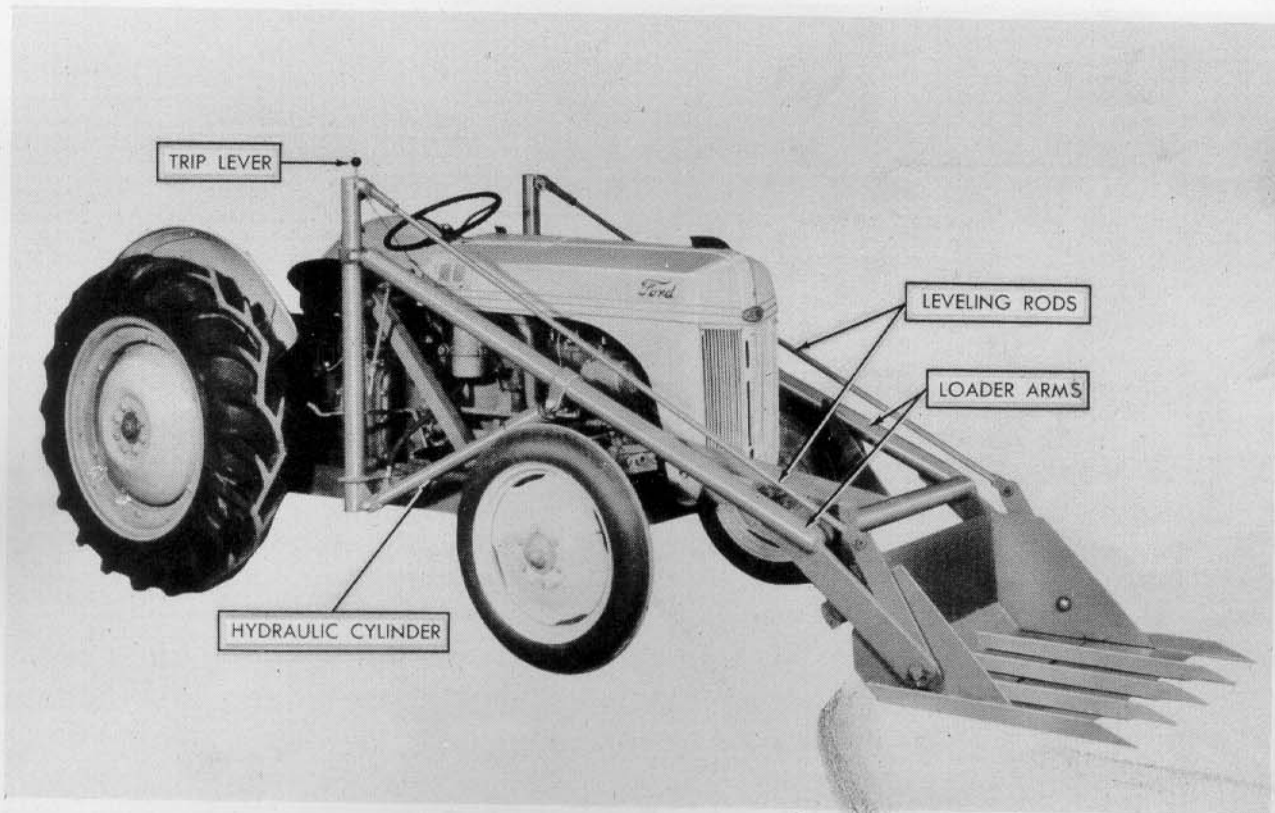

Figure 19
5. Remove the hydraulic cylinders. See Figure 19.
6. Disconnect the loader arms and leveling rods from the loader post. See Figure 19.